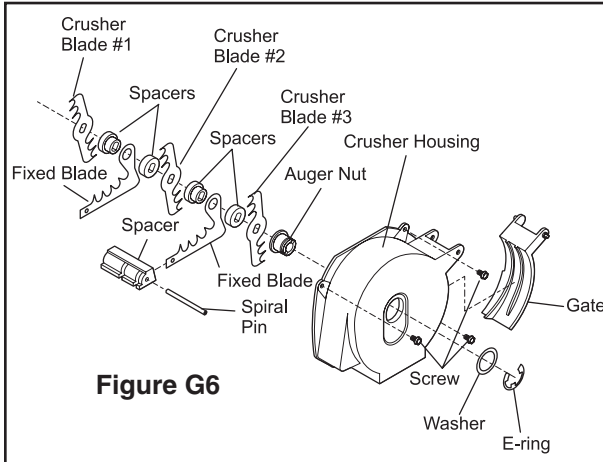

**Figure G5**
1. Remove four (4) screws holding Ice Container Front to Ice Container.
2. Remove two (2) screws on underside of Ice Container, holding Crusher Housing to container.
4. Remove three (3) Hex head screws holding Crusher Housing to Front Plate. (See Figure G5)
5. Remove E-ring and washer on front of Crusher Housing. (See Figure G5)